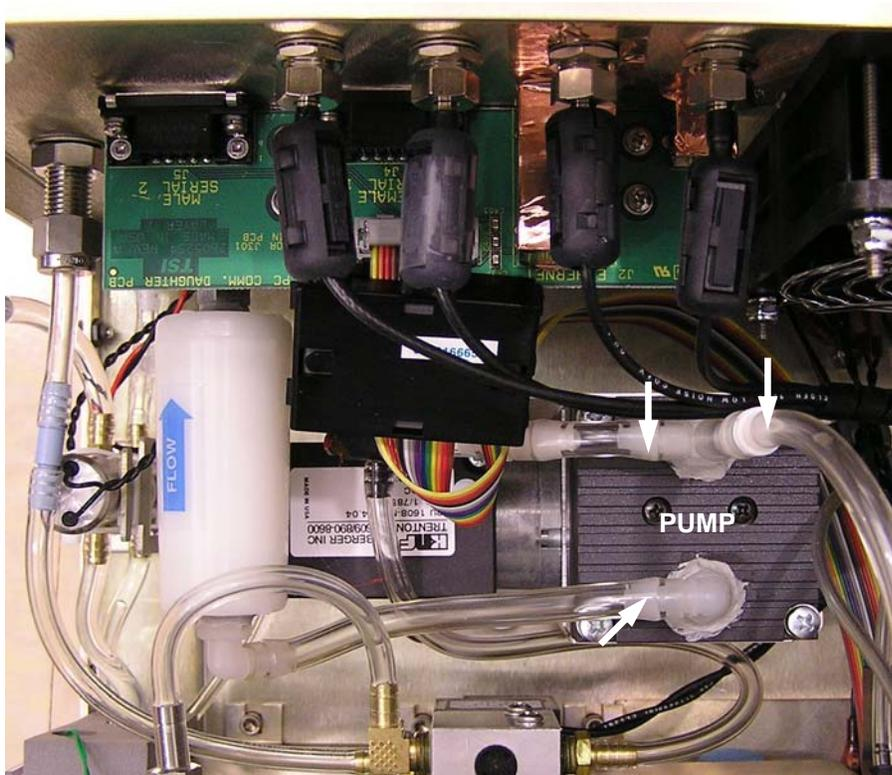

Figure 8-12
3. Locate the top of the internal vacuum pump shown in Figure 8-12.
4. Disconnect tubing from the barbed fittings shown in Figure 8-12.